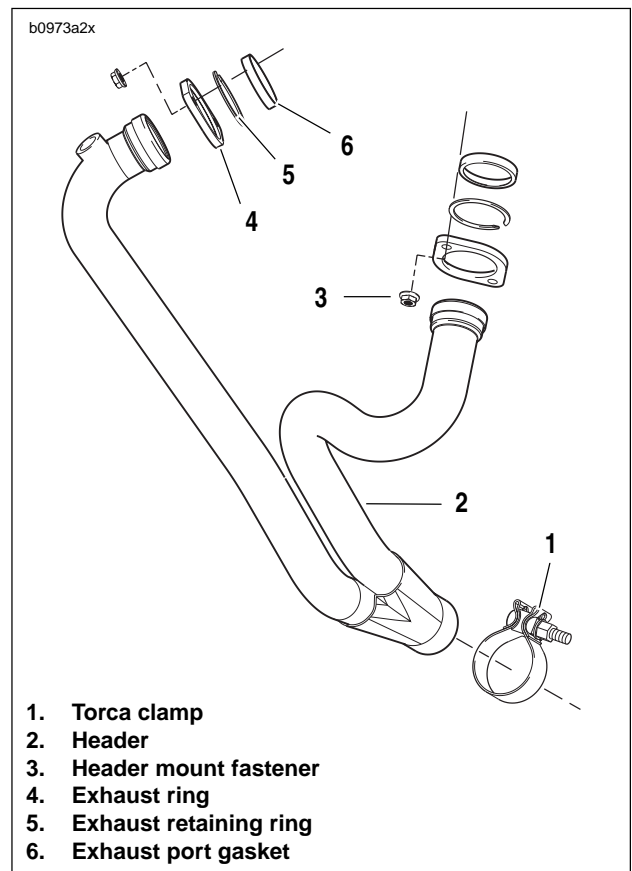

Figure 2-111. Exhaust Header
6. See Figure 2-111. Loosen Torca clamp (1) and remove muffler.
3. See Figure 2-111. Remove exhaust header (2) by removing mounting fasteners (3).
4. Remove exhaust ring (4), retaining ring (5) and port gasket (6).
1. See Figure 2-111. Install exhaust ring (4), retaining ring (5) and **new** port gasket (6).
2. Install exhaust header (2). Tighten mounting fasteners (3) to 72-96 in-lbs (8-11 Nm).
4. See Figure 2-111. Tighten the Torca clamp (1) to 28-30 ft-lbs (38-40.6 Nm).